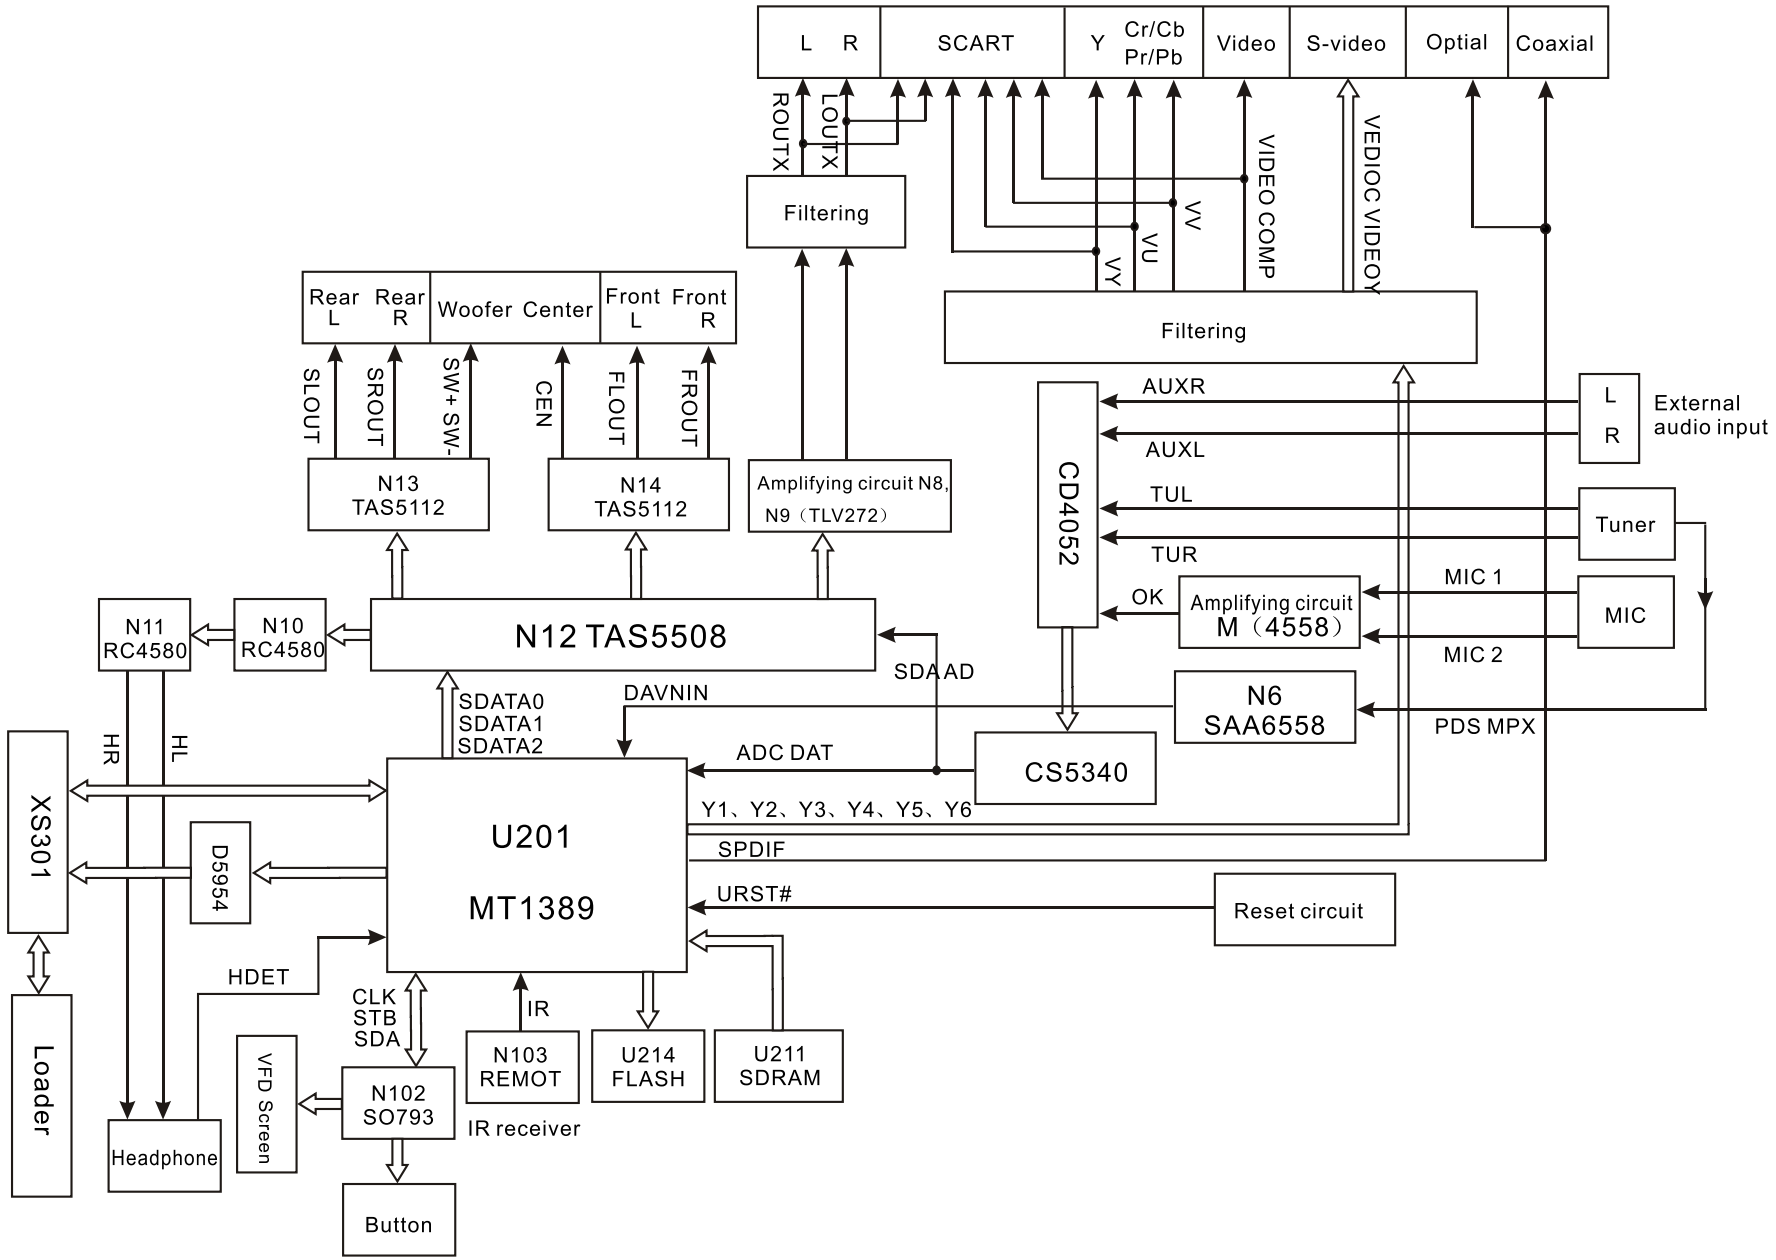

Figure 3.1.1.1 DK1020S principle block diagram
Its internal structure is mainly composed of decode & servo board, power amplifier board, input/output board, panel, headphone board, tuner, power board and loader. The principle block diagram is shown as the figure 3.1.1.1. All other signal flow is shown in figure except power board. The function of loader is to read disc information and transmit it to Mt1389, which performs servo function through D5954 on decode board and other supplementary circuit, and ensures the normal working of loader. FLASH on decode board is to store system program, SDRAM is to store program and sound/image information read from disc when the player is working to ensure their smooth output. The main function of power amplifier board is to perform audio D/A conversion, amplify analog signal and output 5.1CH to ensure the normal working of external speakers. The main function of AV board is to output various audio signals. This player is also with headphone and microphone to meet customers' demand. Further more, it also has external sound input, which may amplify power by use of power amplifier board of this player to output to speaker. Tuner in this player makes it have tuning function. It is also equipped with SAA6558 chip to realize RDS function of Europe and RBDS function of US.
2. DK1020S principle block diagram is shown as the following figure 3.1.1.1: